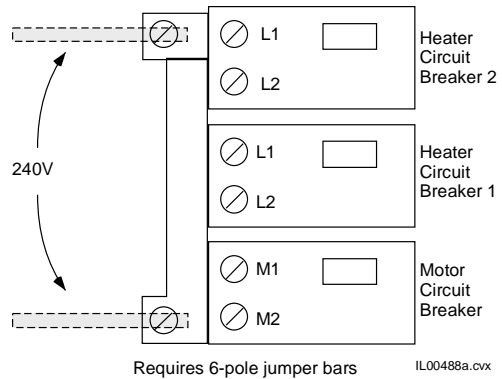

**Figure 11. Combined blower motor and one heater circuit wiring (single phase furnaces only) (10kW and below)**
**Combining the motor and heater loads (single phase heaters only).** All single phase furnaces include a 4-pole jumper bar (P/N: A01241-001) to combine the blower motor circuit breaker and one of the heater circuit breakers (Figure 11). The combined load can be powered by one fused main circuit sized for both the heater and motor loads. Remove the jumper bars if using a separate power supply for motor and electric furnace as in Figure 10.